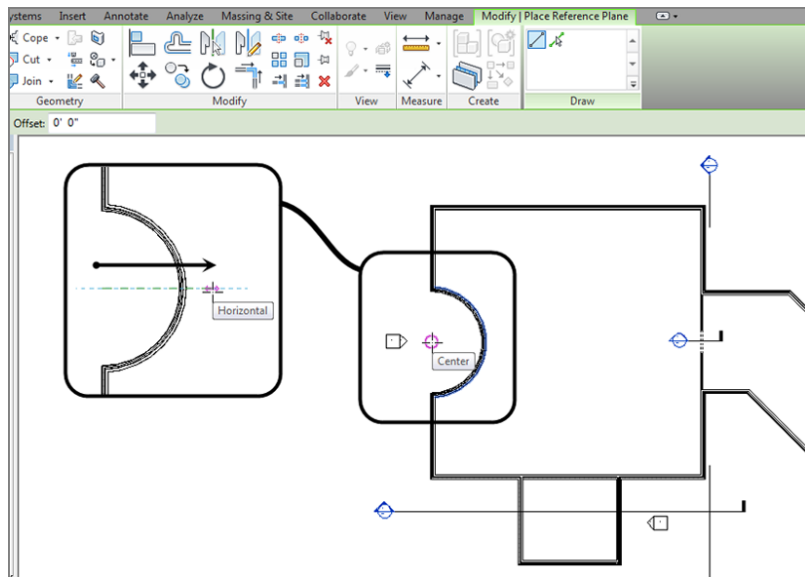

FIGURE 4.7: Establishing a reference plane
3. You're going to add a new reference plane and rotate it by 45°. To do so, click Ref Plane in the Work Plane panel in the Architecture tab (see Figure 4.7).
5. For the first point, pick the center point of the radial wall, as shown in Figure 4.7.
6. For the second point, pick a point horizontally to the right, outside the radial wall (again, see Figure 4.7).
W A R N I N G Before you rotate, be careful. Figure 4.7 shows the second point extended past the radial wall, and that is where you generally want it. However, watch out for your snaps. When you pick the second point, be sure to zoom in on the area, ensuring that you aren't inadvertently snapping to the wrong wall.